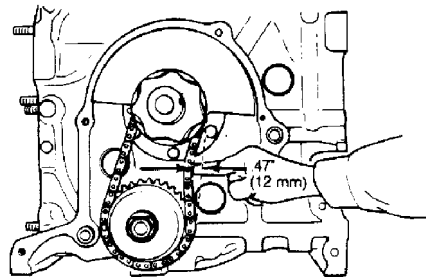

Fig. 31: Measuring Oil Pump Drive Chain Slack
2) Check oil pump chain slack measurement by pressing finger against chain. See Fig. 31. Replace chain if slack exceeds .47" (12 mm).
1) Remove front engine cover. Check oil pump drive chain slack by pressing finger against chain and measuring slack. If measurement exceeds .47" (12 mm), replace drive chain. See Fig. 31.